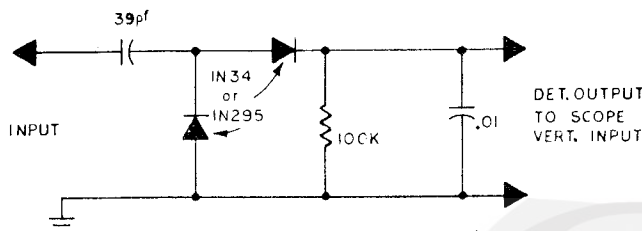

Figure 4-6. High-Impedance Detector
- a) Connect detector input (Figure 4-6) to pin 16 of IF chip IC101; connect detector output to scope vertical input. Set scope vert. sensitivity to give a usable pattern with minimum sweep-generator input.